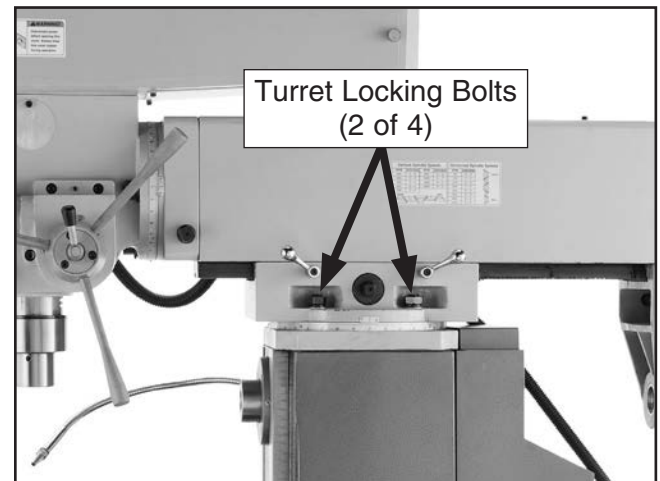

Figure 11. Locations of turret locking bolts.
4. Torque four turret lock bolts (two on each side of ram, as shown in **Figure 11**) to 47 ft/lbs. This will help keep ram from unexpectedly moving from force of lifting slings.